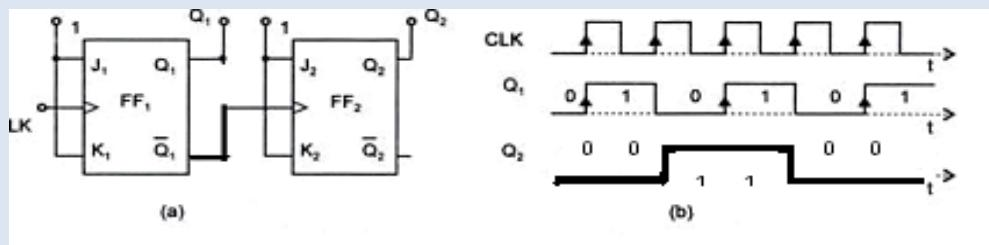

Figure 6.1.8 (a) Asynchronous 2 bit up counter using +ve edge triggered flip flops. (b) Timing diagram.
next flip flop (because when  $Q_1$  is changing 1 to 0  $Q_1'$  will change 0 to 1 which is the positive edge of the clock) as shown in Figure 6.1.8
**Working principle:** The output  $Q_1'$  of FF1 is connected to the clock input of FF2. For the clock pulse applied to FF1, the output of FF1 toggles. For the  $Q_1'$  pulse applied to FF2, the output of FF2 toggles. Thus the 2 bit down counter counts in the order 0, 3, 2, 1, 0, 3 ... Figure 6.1.8 shows a 2 bit ripple down counter using negative edge triggered JK flip flops and its timing diagram.